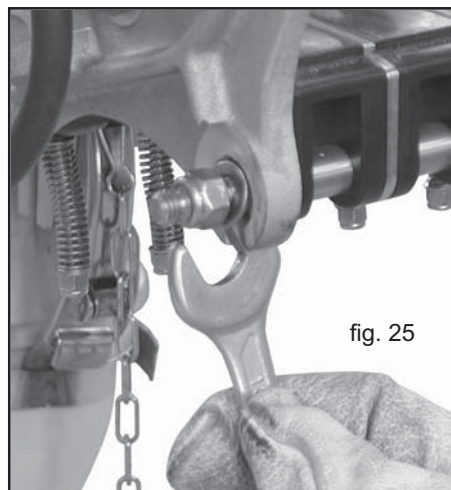

fig. 25
- 2) until it becomes possible to push out the discs fitted inside, remove them from their seats (Fig. 25) and move the axles.